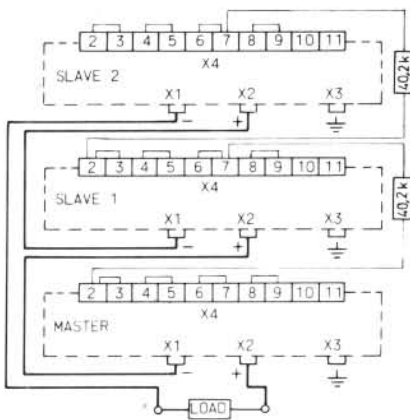

Fig. 8h. Series connection according to "Master-Slave" system
- b. By connecting in accordance with the Master-Slave system (see Fig. 8h.). The output voltage of every instrument is adjusted by means of R1 and R2 of the "master" instrument. The controls R1 and R2 of the "slave" instruments must be turned completely to the left. When R3 and R4 of the slave instruments are set at maximum output current, it is possible to adjust for maximum load current with R3 and R4 of the master instrument. For series connection in accordance with this system, a $40,5\text{ k}\Omega$, 1 %, 0,1 W resistor must be added and terminal block X4 must be wired, as shown in Fig. 8h.